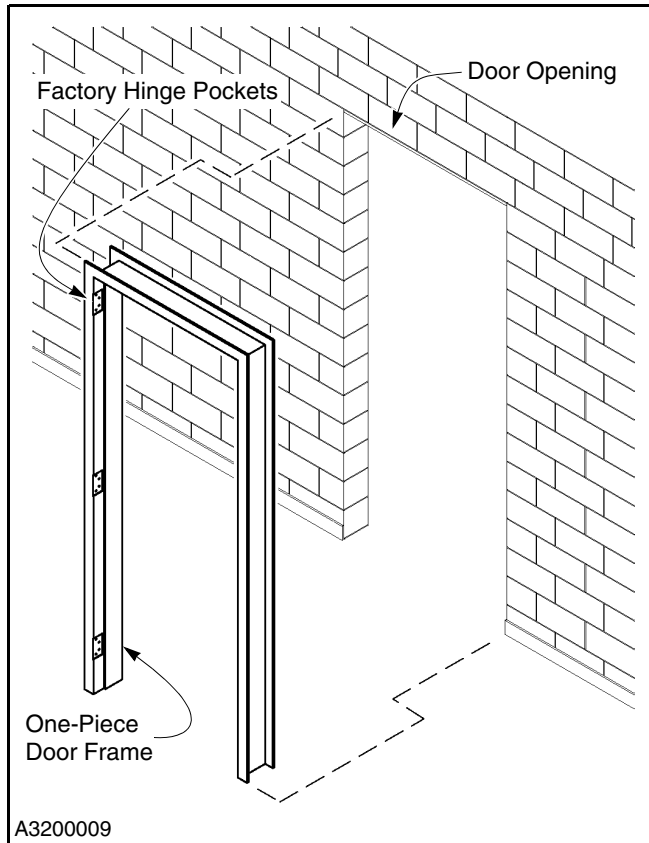

Figure 39
4. Install frame using the appropriate anchor method for your style of wall. (See Figure 39.) (See “ANCHORING METHODS” on page 2.)